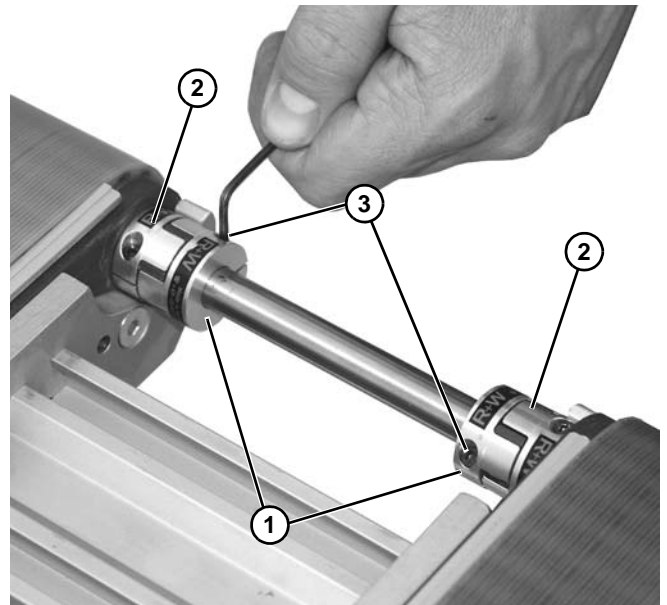

Figure 29
10. Slide both ends of inner portion of 3-jaw coupling (**Figure 29, item 1**) onto mating surface of outer 3-jaw coupling (**Figure 29, item 2**) and secure with clamp screws (**Figure 29, item 3**). Tighten screws to 2 Nm.